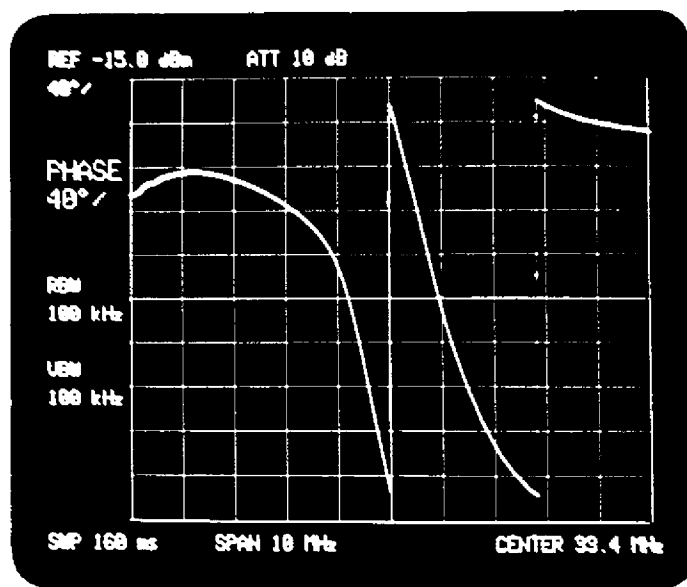

Fig. 7-6 Filter's phase response
- ⑧ Connect the device under test (filter) to the measuring setup to observe its phase response (Figure 7-6).